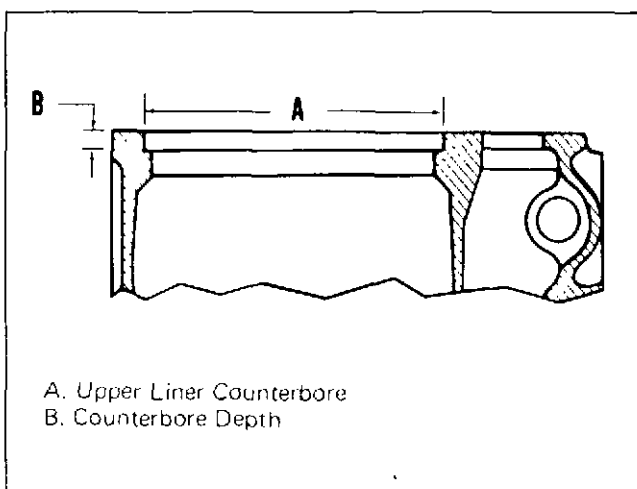

Fig. 1-5 (N10103). Cross-Section of The Counterbore for The Cylinder Liner
2. Check the upper counterbore for the cylinder liner. Remove any dirt or rough edges so that the liner can enter the cylinder block without distortion. Measure the diameter of the counterbore (A) Fig. 1-5. If the diameter is more than 6.5635 inch [166.713 mm], or if the depth of the counterbore (B) Fig. 1-5 is more than 0.412 inch [10.466 mm], the counterbore must be repaired by installing a sleeve.